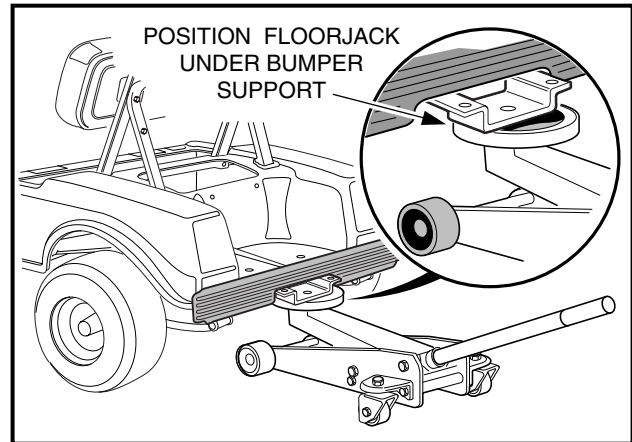

FIGURE 10-22
5. Position a floorjack under the trailer hitch bracket in the frame as shown (**Figure 10-22, Page 44**). See WARNING below.